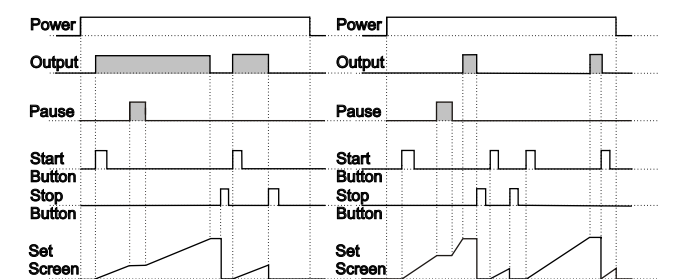

Figure 2.1 Figure 2.2 Figure 2.3 Figure 2.4
- 2.1.1 If Downcount **dEc**=1 and **outf** is **on** the control diagram is shown in Figure 2.1